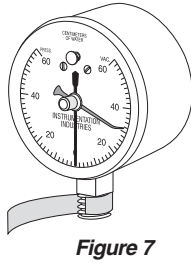

Figure 7
1. Prior to installation, at least two layers of teflon tape **MUST** be applied to threads. (Figure 7)
3. Attach the **NIF Meter** to the appropriate adapter(s). (see Figures 7 and 8 in panel G for instructions)